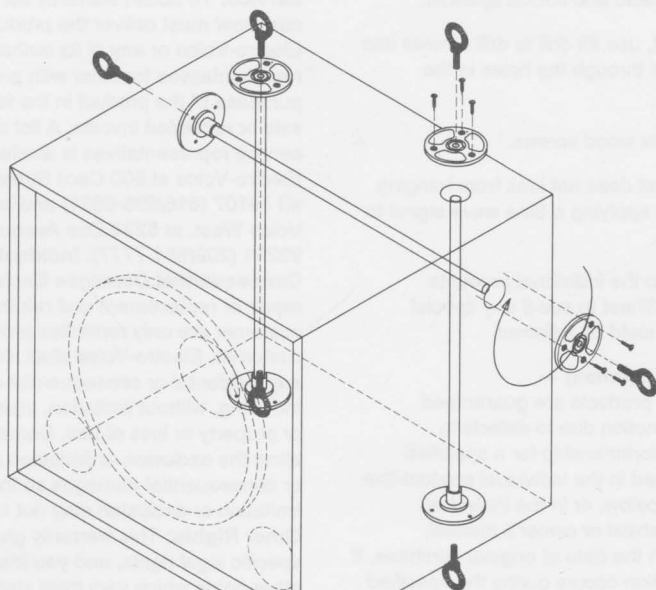

FIGURE 1
1. Suspending a single cabinet with a net weight of less than 175 lbs (80Kg) (see Fig 1.).
2. Suspending multiple cabinets with a net weight of less than 750 lbs (340Kg) (see Fig 1.) No individual cabinet must weigh more than 200 lbs.